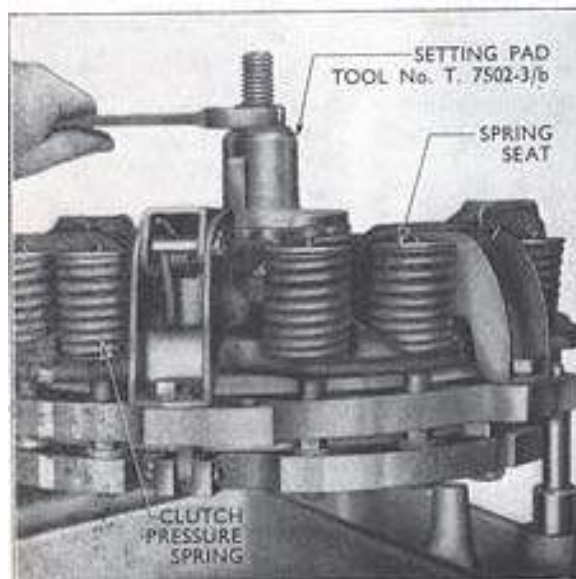

Fig. 11
1. Locate the setting pad (Tool No. T.7502-3.b) over the centre spindle of the assembly fixture so that the large end face of the pad contacts the transmission clutch release lever screws. Fit the flat washer and nut to the centre spindle then screw down the nut so that the setting pad depresses the transmission and P.T.O. release levers (see Fig. 11), moving the pressure plates away from the centre drive plate. When carrying out this operation, ensure the P.T.O. and transmission lever adjusting screws project out of the levers approximately the same distance ($\frac{1}{4}$ in. (9.53 mm.) will be suitable), otherwise a fouling condition may occur which will prevent sufficient movement of the pressure plates. Discontinue screwing down the nut immediately if the levers are depressed to the point where they strike the clutch cover.
5. Invert the setting pad on the fixture centre spindle so that the large end face contacts the transmission release lever adjusting screws (as in Fig. 11). Fit the washer and nut to the centre spindle, screw down the nut then extract the three setting blocks. Remove the nut, washer and setting pad from the fixture centre spindle.